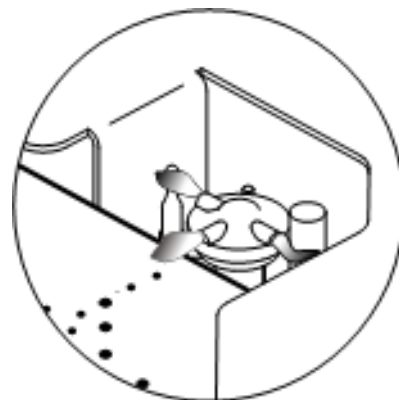
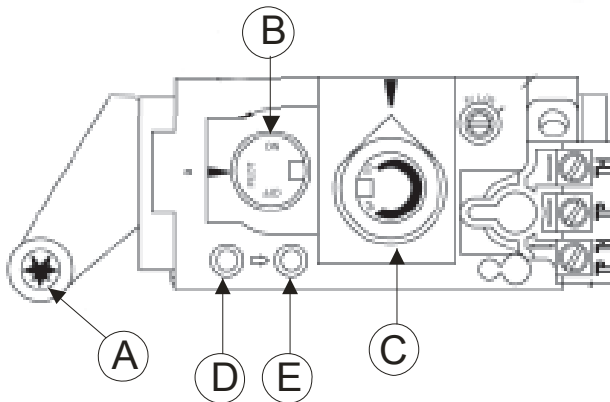
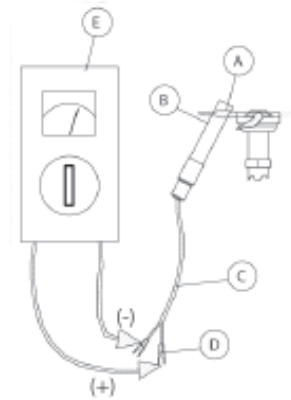
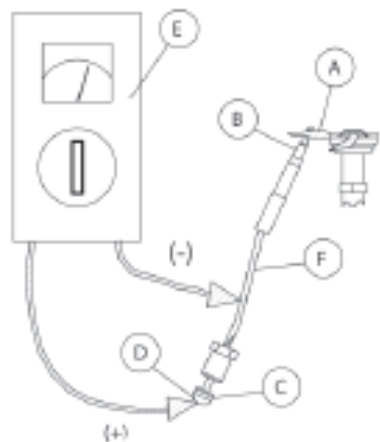

Figure 17.
Figure 20. Valve Controls.
Figure 24.
Figure 23.
The pilot flame should have three flames as shown in fig. 16. The two thermo-element sticks should be surrounded by two of the flames as shown in fig. 17. The flames should be stable and the colour mainly blue. If you detect a deviation from this, turn off the pilot flame and call for service.
The valve control knobs are located on the front of the appliance behind the control cover plate. See fig. 20.
2. Push in the gas control knob on the front of the valve ("B", fig. 20) a little, and turn clockwise to "OFF". Note: It is impossible to turn the gas control knob unless it is pushed in a little. Do not use force.
3. Push in the gas control knob (B) a little and turn counter-clockwise to "PILOT".
Heat and flame size can be adjusted by turning the regulator knob (C) marked "HI, LOW", which is located next to the gas control knob (see fig. 20). Maximum flame size provides maximum heat. Make sure the appliance has been operating for at least 30 minutes before adjusting the flame.
Push the ON/OFF switch at the rear of the appliance to "OFF". The pilot flame will continue to burn. In order to fully extinguish the appliance, push in the gas control knob (C) (fig. 20) a little and turn clockwise to "OFF". Do not use force.
If the pilot does not light after attempts to clear the tube system of air, it indicates a problem with the gas tank/cylinder or a leak in the gas tube. Check the gas pressure as instructed in the section Gas Installation on page 10 and determine if the fault/leak is before or after the valve on the appliance. If the gas pressure at outlet D (fig. 20) is too low or there is no gas pressure at all, the fault or leak must be located before the valve on the appliance. If the gas pressure is OK at outlet (D), but too low at outlet (E), then the fault or leak must be located after the valve.
This is the trouble-shooting procedure for the gas supply: Remember to push in the gas control knob for at least 30 seconds. Make sure the flame is centred at the thermocouple. Make sure the thermocouple is enveloped by the flame up to at least 3 mm (1/8") from the tip (fig. 17).
If the flame is abnormally large or small, check the gas pressure first. See section about gas pressure, page 10. Then check for errors, dirt or corrosion on the pilot burner (fig.17), the pilot orifice and the gas supply to the pilot burner.
Thermocouple (Fig.23) and Thermopile (Fig. 24)
This is the trouble-shooting procedure for the thermocouple, fig. 23,B: Check the copper wire (F) of the thermocouple for cracks or damage.
Make sure the flame is centred at the thermocouple. Make sure the thermocouple is enveloped by the flame up to at least 3 mm from the tip (see fig.17). Check the voltage generated by the thermocouple. Connect the multimeter (fig.23-E) with plus to the ball point (D) at the end of the copper wire. Connect minus to the copper wire. Light the pilot (A) and hold in the control knob to prevent the flame on the pilot burner from going out. At this point the multimeter should show 14-28 mV. the thermocouple. Note that there are 2 threaded holes that can be used when installing a new thermocouple. Make sure the blue wire (A) is fastened at the same threaded hole. The nut on the thermocouple must not be tightened too much, just a 1/2 turn. If the gas pressure is correct and the possible faults above have been checked, the pilot flame can be adjusted with the adjusting screw. The gas volume is increased when the screw is turned anti-clockwise.
This is the trouble-shooting procedure for the thermopile (fig. 24):
8. Check the voltage generated by the thermopile (see fig 24). Connect the multimeter with plus to one cable clip (D). Connect minus to the other cable clip. Light the pilot and make sure the control knob remains on "PILOT" (fig. 20-B). At this point the multimeter should show 500-700 mV.